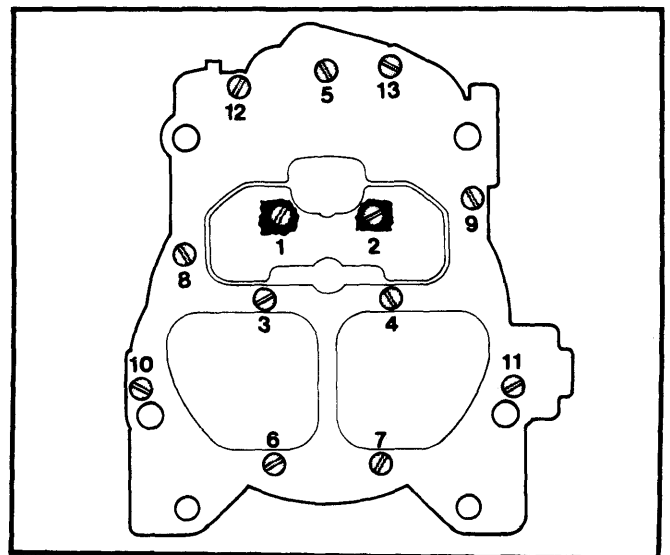

Fig. 18 Air Horn Screw Tightening Sequence
7) Install air horn screws and tighten evenly, securely and in sequence shown in Fig. 18.